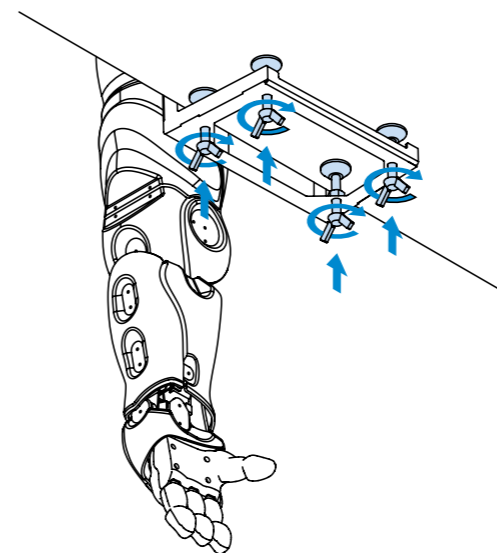

Figure 13.
5. Fasten the bracket to the tabletop (Figure 13).